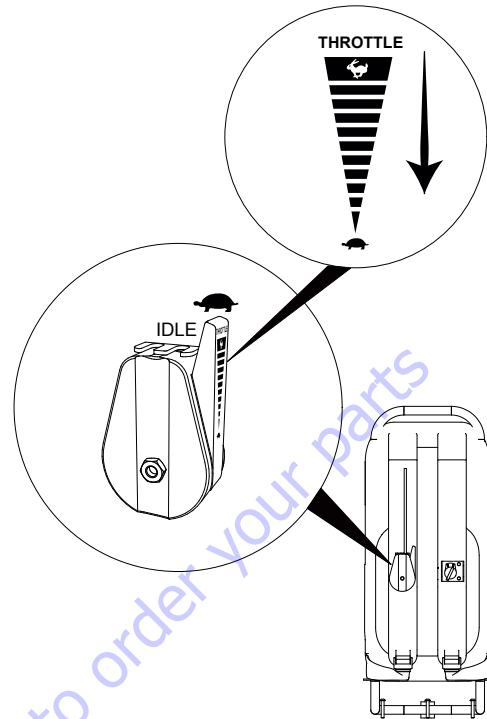

Figure 13. Throttle Lever (Idle/Turtle Position)
6. Place the throttle lever (Figure 13) in the **UP** position (**TURTLE**) to start the engine in **IDLE** mode.